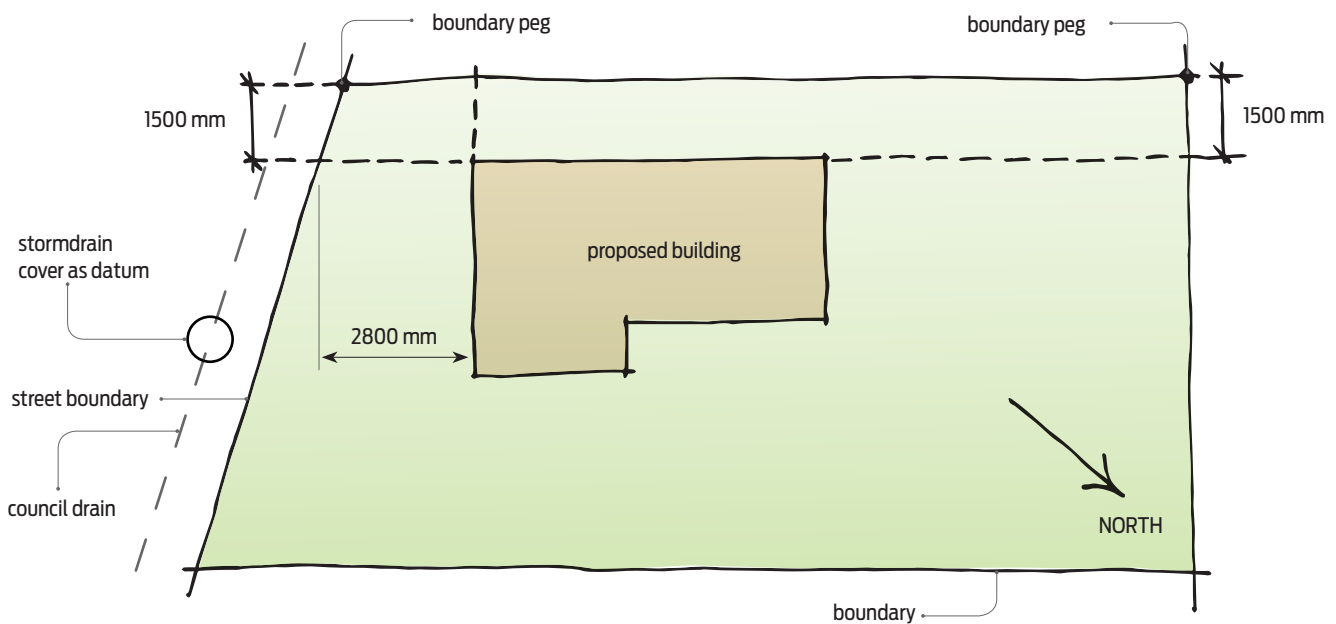

Figure 1: Clear set-out with single offset dimensions.
- give single offsets from the building to the most critical points on the boundaries (Figure 1) – they must not dimension set-outs to opposing boundaries